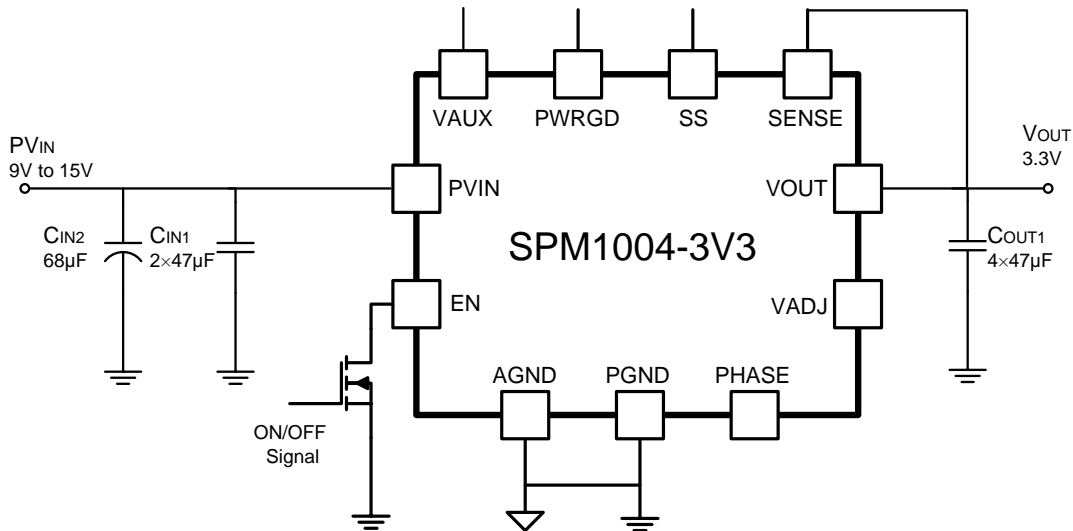

Fig. 23 Schematic for  $V_{IN} = 12V$ ,  $V_{OUT} = 3.3V$  with External ON/OFF Signal Control
Fig. 23 shows a typical application schematic for 12V input and 3.3V output application. The on / off of the power module is controlled by an external ON/OFF signal through a MOSFET.
**Note:** in Fig. 23 the VSENSE pin is shown connected directly to the output capacitor  $C_{OUT}$ . This module uses a constant on-time control and the feedback needs to sense the output voltage ripple as accurately as possible to provide the best regulation. If there is a significant distance between the SPM1004 and the load, the bulk output capacitor should be physically located close to the load, and the VSENSE connected at that point. When the recommended capacitance of 4x 47µF is used, one capacitor can be located at the module and the other three close to the load.